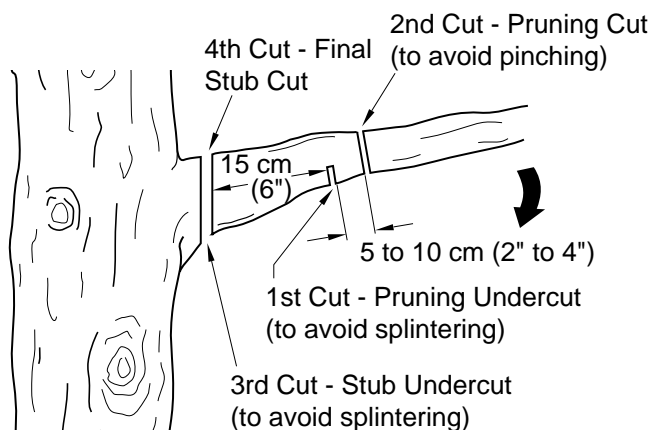

Figure 11 - Cutting A Limb
1. Make first cut 15 centimeters (six inches) from tree trunk on underside of limb. Use top of guide bar to make this cut. Cut 1/3 through diameter of limb (see Figure 11).